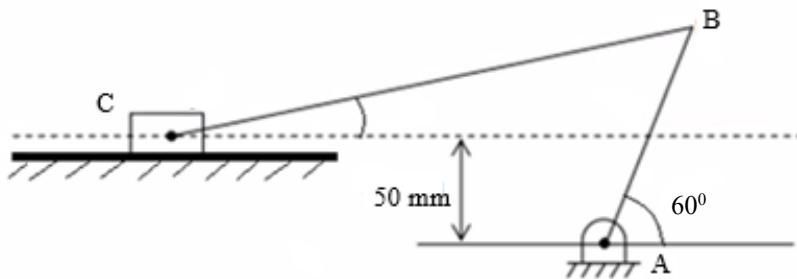

Figure3(b) / Rajah 3(b)
- CLO1 C3 (b) Consider the slider crank mechanism given in Figure 3(b). Let AB = 200 mm, BC = 520 mm and offset distance = 50 mm. The crank AB rotates counter clockwise at a constant velocity of 2000 rpm.